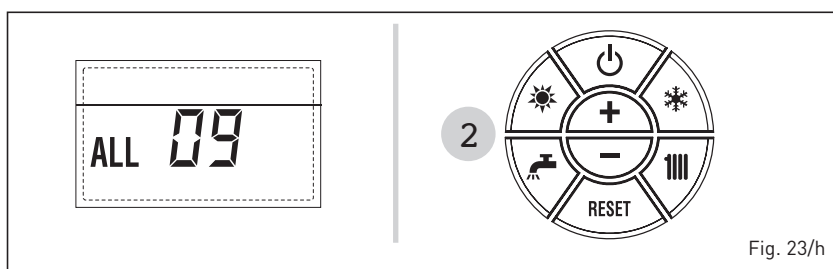

Fig. 23/h
– **AUXILIARY SENSOR ERRORS ALARM 10 (fig. 23/i)**